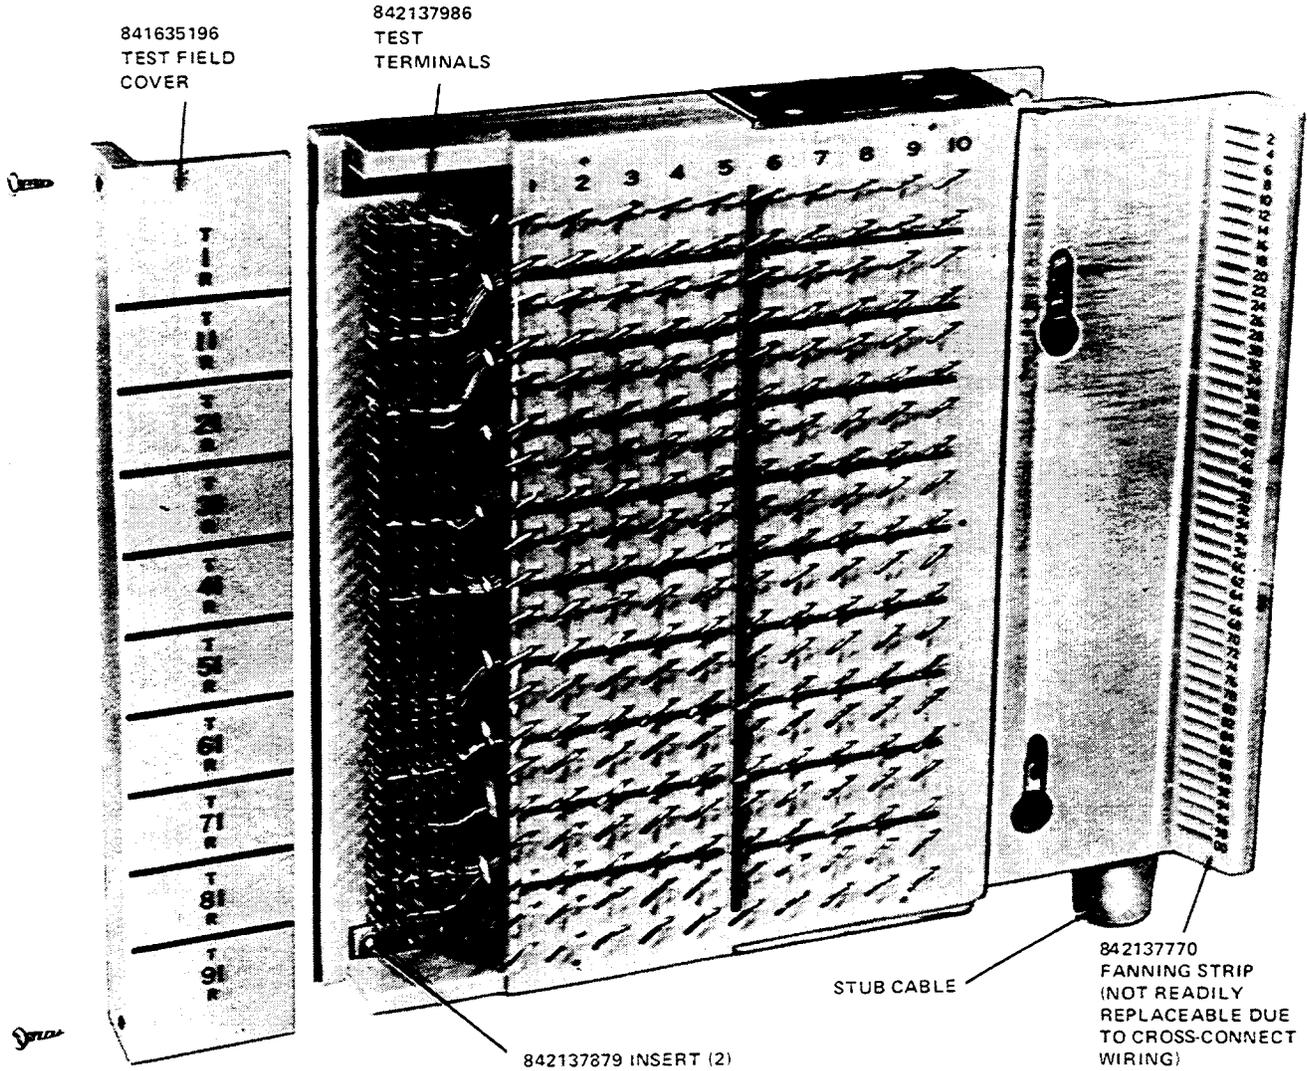

Figure 10—305-Type Connector, Test Field Cover and Terminal Guard Removed
5.01 841635196 Test Field Cover (Figure 10): To replace the cover, proceed as follows:
5.04 842137879 *Insert (Figure 10 and 11)*: The 100-pair M test connector attaches to the 305-type connector by means of two thumbscrew fasteners which engage threaded inserts at the top and bottom of the test contact field. Replace the threaded inserts as follows:
- (1) Facing the front of the connector, remove the test field cover as directed in paragraph 5.01, Steps (1) and (2).
- (2) Observe the mounting of the inserts. At the left side of the connector, remove and retain the two flat-head screws that secure the insert in position.
- (3) Remove the insert carefully to prevent a short in the test terminal field (Figure 10).
- (4) Install the new insert and secure it with the two screws removed in Step (2).
- (5) Replace the test field cover as directed in paragraph 5.01, Steps (3) and (4).
6.01 To repair a broken or damaged wire conductor leading from the moisture plug of the stub cable and through the mounting bracket of the 305-type connector (Figure 10), proceed as follows: